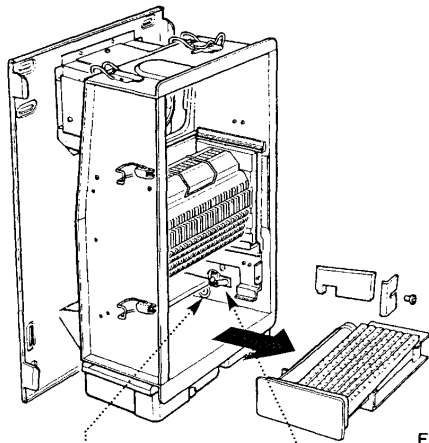

Fig. 113
**10.10 Burner (Fig. 113)**
1. Release and remove the burner injector which Fig. 113 is screwed into the burner feed manifold.
1. Remove the right hand side insulation carrier bracket by releasing the screw. Remove the side insulation panel (Fig. 113).